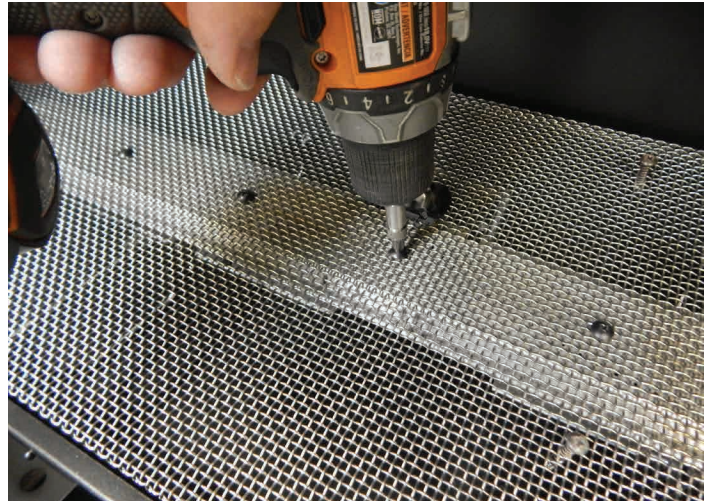

Figure 2
9. Remove (7) Phillips Truss head screws that secure the Burner Screen Cover. **See Figure 2.** Lift up the Burner Screen Cover to remove and set aside.